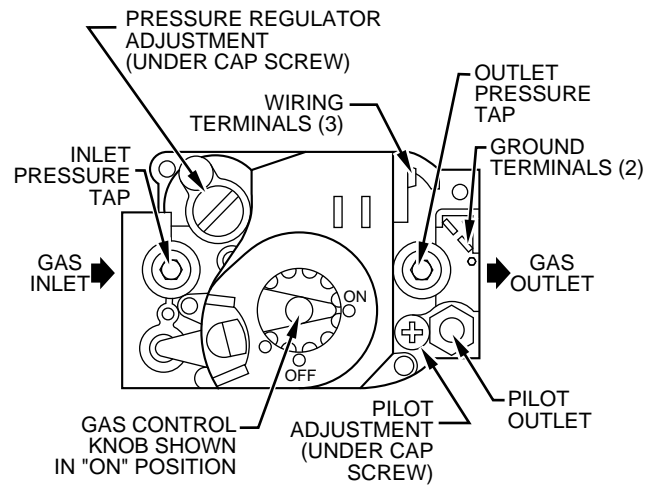

Fig. 10—Automatic Gas Valve
1. Remove screw cover over pilot adjusting screw. (See Fig. 10.)